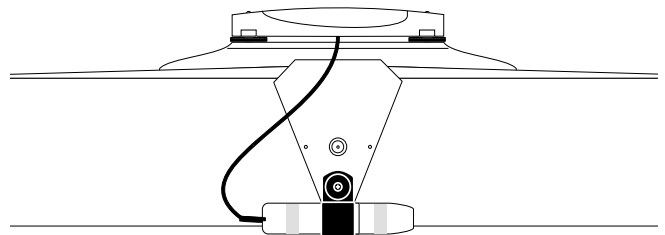

Figure 2.
- d. Install the jack as shown in Figure 2. If the instrument has a metal tailpiece, attach the supplied ground wire to it. If the instrument has a wooden tailpiece, attach the ground wire to the ball ends of the strings.